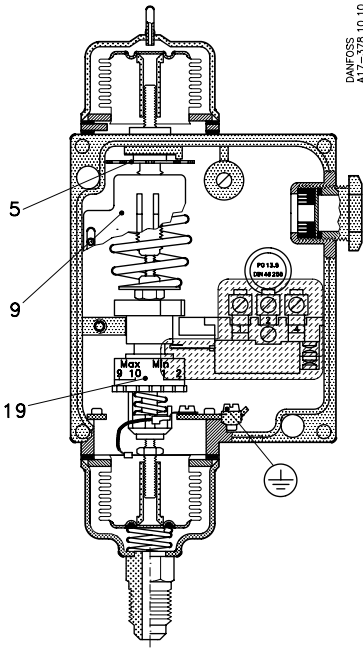
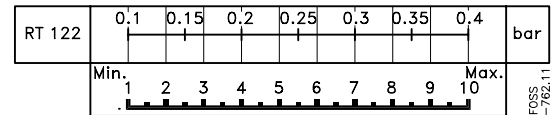

Fig. 1
Fig. 4
Adjust the lowest operating pressure with the setting disc (5) and read at the same time the main scale (9), see fig. 1. Adjust the difference with the setting nut (19) according to the nomogram in fig. 4. Highest operating pressure = Lowest operating pressure + differential.
The number 4 is to be read from the nomogram in fig. 4.